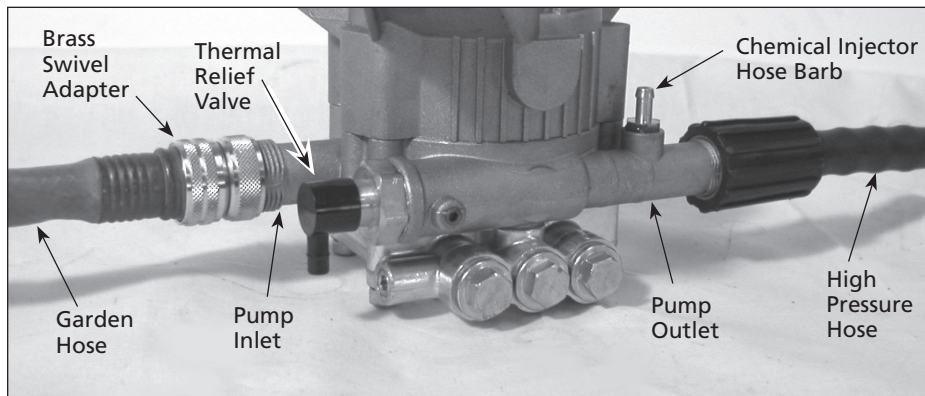
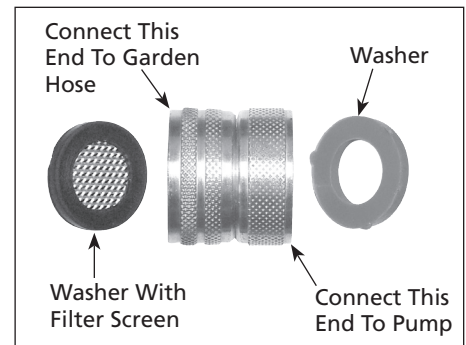
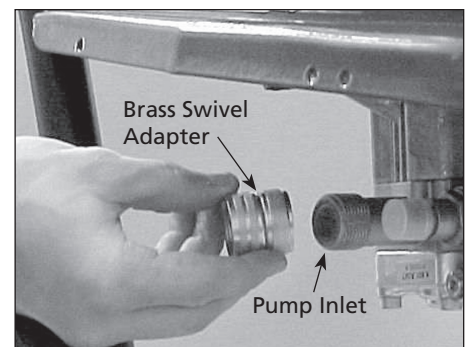

Figure 2 - Pump hook up
Figure 3 - Brass swivel adapter
Figure 4 - Connect the brass swivel to the pump
1. Attach clear plastic tube to barb on pump (see Figure 2 on page 5).
2. **Brass Swivel Adaptor** (See Figure 2). If it's not already attached to the pump inlet, assemble the brass swivel adaptor and attach it to the pump inlet (See Figure 3 and Figure 4). Be sure to connect the correct side of the brass swivel adaptor to the pump.
- Connect the high pressure hose to the pump outlet (See Figures 2 and 5).